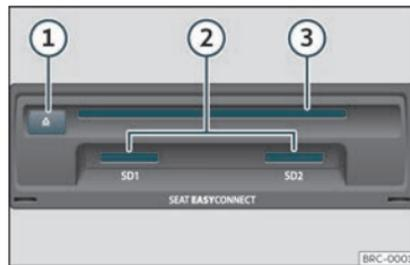

Fig. 156 Slots for data storage devices in the glove compartment.
• Insert a CD or DVD into the slot >>> Fig. 156 ③ with the printed side facing upwards, until the equipment inserts it automatically.
Insert the compatible memory card, with the cut corner first and the contacts facing down, into slot »» **Fig. 156** (2), until it clicks into place.